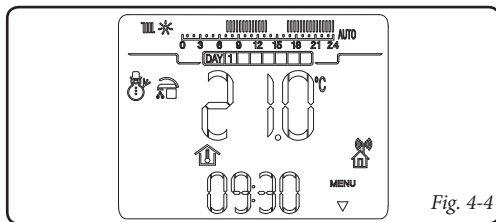

Fig. 4-4
- **Winter mode** (❄️). In winter mode the boiler is enabled for producing domestic hot water and for central heating the environment. In winter, the CAR^{V2} can work in automatic or manual mode. For the description of operation see chapter 6. The display shows the day and current time, the room temperature and the hour bar with the daily programming of the heating timer together with the relative symbols (Fig.4-4).